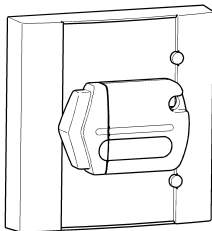

Fig. 8 : Passive mode
If the battery in the key (8) runs down to such an extent that no signal is issued when the key is at a distance from the reader / control unit, it is possible to use the „passive“ mode. To do so, place the key (8) close to the reader, as shown in Fig. 8 :